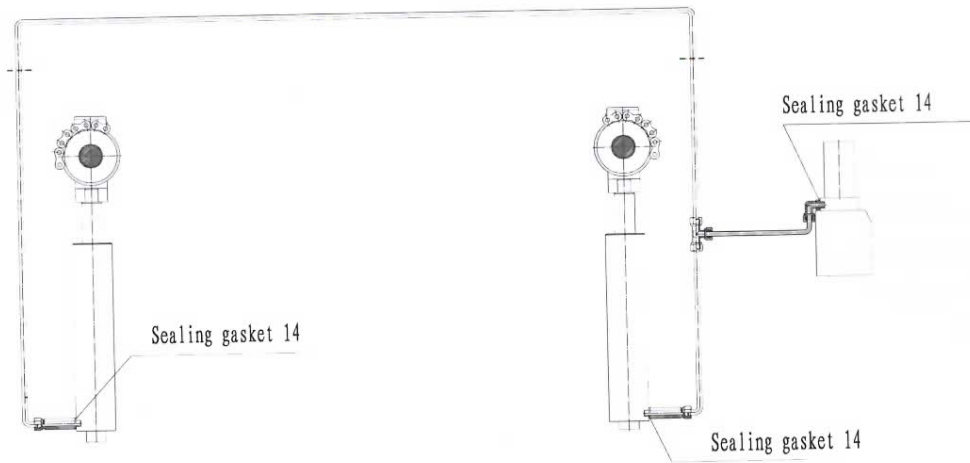

Fig. 7
- Clean and oil change: In the six months after initial use of this unit, clean the hydraulic oil tank and replace the oil, later clean the hydraulic system once a year, and replace the oil. See Fig. 7.
- Replace the seal: After this unit is put into operation for certain period, if finding the oil leakage, carefully check it; if the leakage is due to the wearing of sealing materials, immediately replace the worn one based on the original spec. See Fig. 7